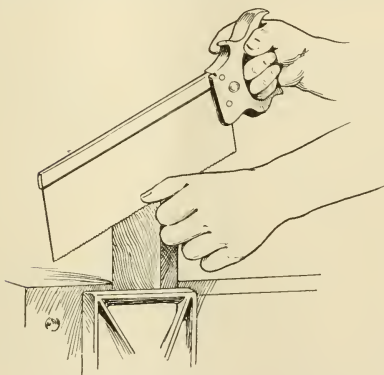

FIG. 16.—FIRST CUT IN MAKING HALVED JOINT.
a. Hold the piece perpendicular in the vise, as in Fig. 16. Hold the thumb nail of the left hand in the groove made by the marking gauge and set the teeth of the rip saw so that they will just touch the thumb nail, and so will split the line.